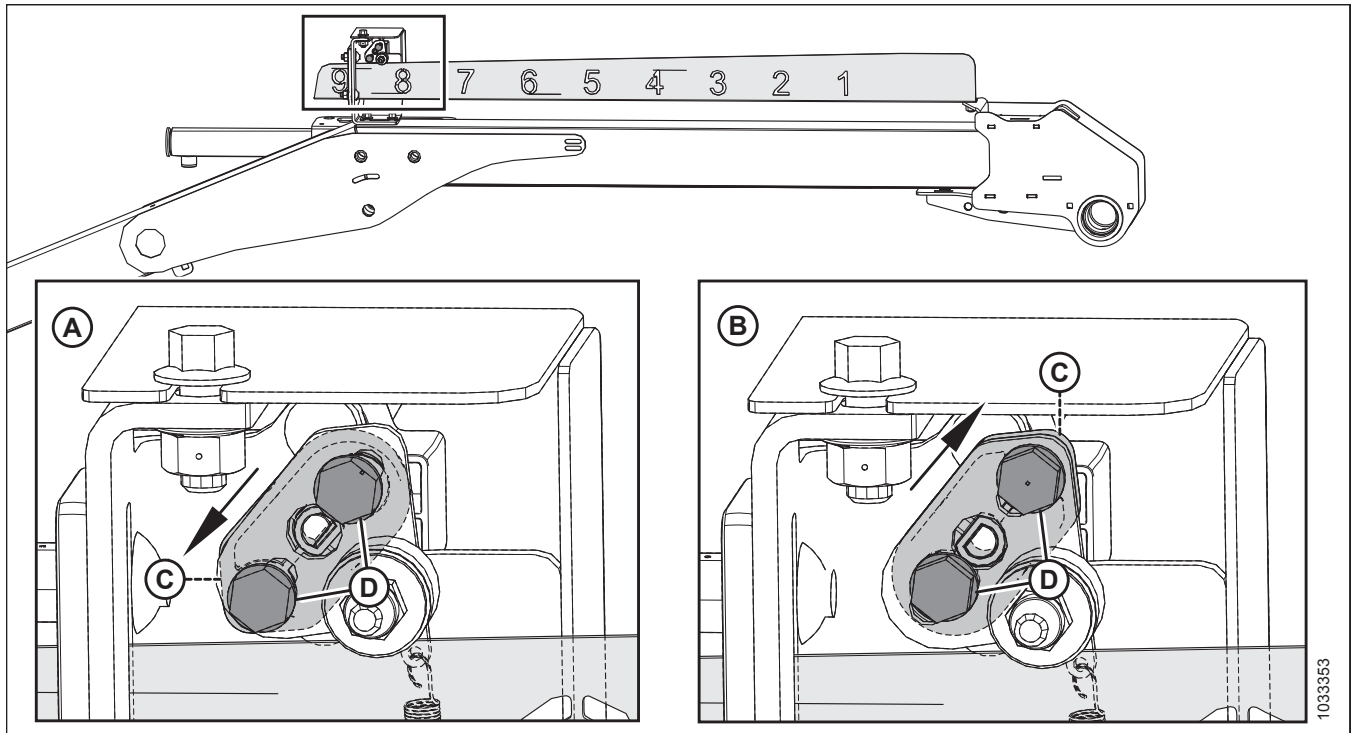

Figure 7.22: Sensor Arm Configurations
Note the orientation of sensor arm (C) and hardware (D). Ensure that the sensor arm is configured properly for your machine; refer to Figure 7.22, page 175.